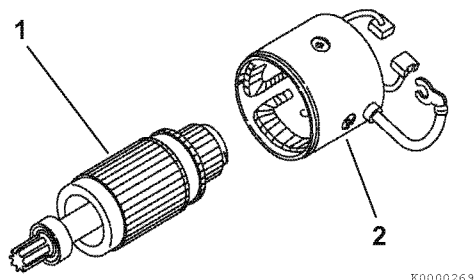

Figure 11-30
- Carefully install the armature assembly (**Figure 11-30, (1)**) into the field coil assembly (**Figure 11-30, (2)**).